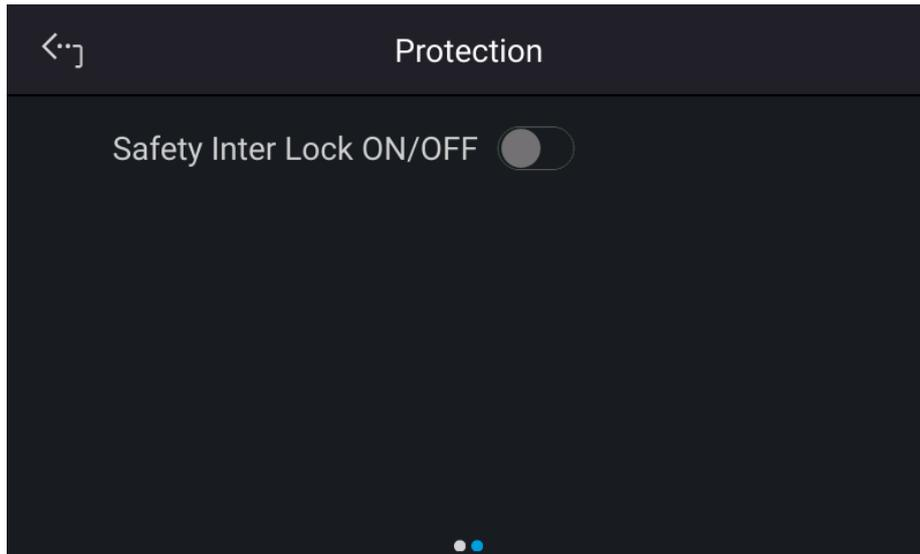

Figure 3-16
1. Tap Safety Inter Lock to set it to ON or OFF as Figure 3-16 shows.